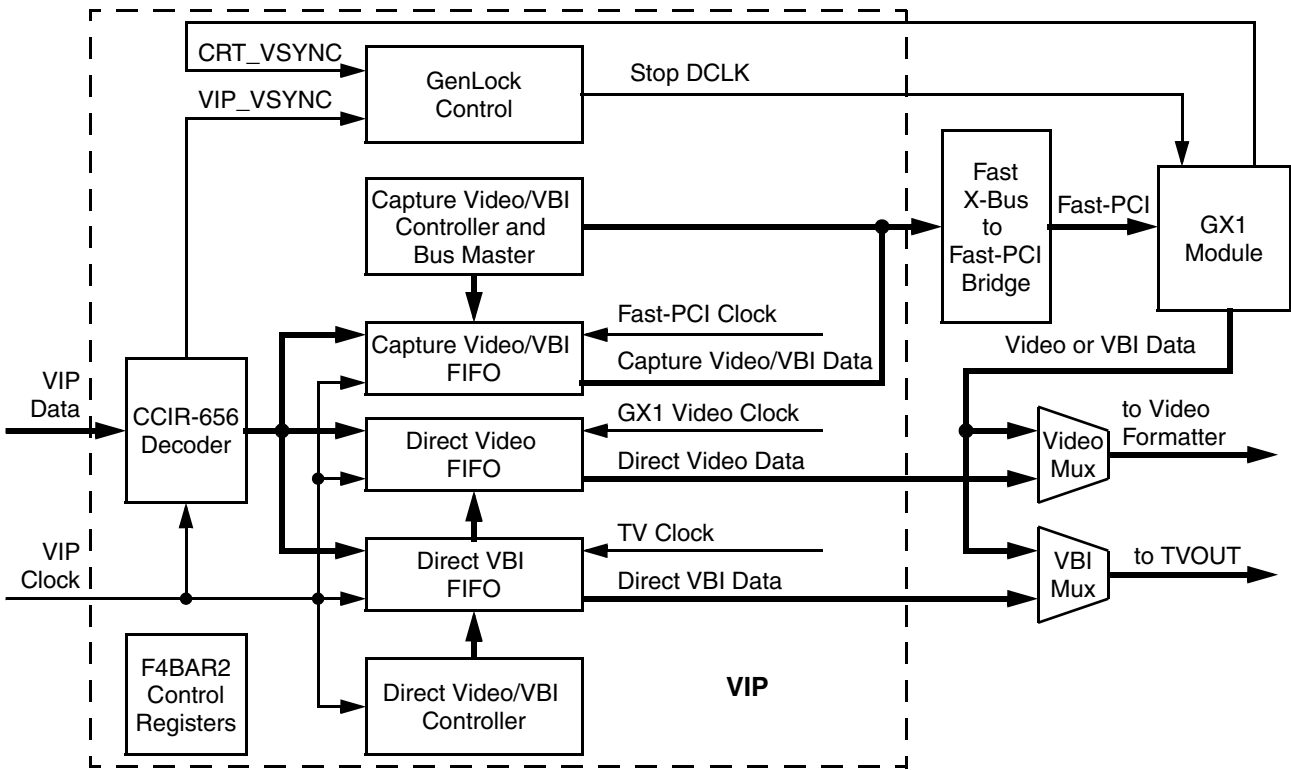

Figure 7-4. VIP Block Diagram
The VIP block is designed to interface the SC1200/SC1201 processor with external video processors (e.g., Philips PN1300 or Sigma Designs EM8400) or external TV decoders (e.g., Philips SAA7114). It inputs CCIR-656 Video and raw VBI data sourced by those devices, decodes the data, and delivers the data directly to the Video Formatter (Direct Video/VBI modes) or to the GX1 module's Video Frame Buffer (Capture Video/VBI modes). Figure 7-4 shows a diagram of the VIP block.
2) The altered VBI data can be sent to the TVOUT block of the Video Processor via the video frame buffer or graphics frame buffer. See VIP block diagram (Figure 7-4 on page 315). The Closed Captioning data could be altered and then sent out this way. One reason to capture the Closed Captioning data would be to do a language conversion. If the VIP block is in Capture Video mode then this option is not possible because the video frame buffer can be used for sending video or VBI, but not simultaneously.